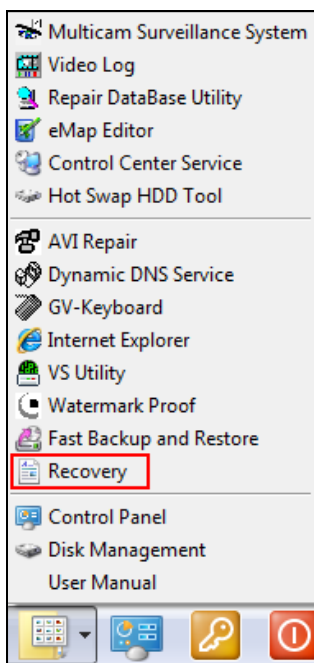

Figure 5-1
- B. Click the **Error Scan** tab and click **Start** to scan. Any found defects will be shown as red blocks (see Figure 5-1).